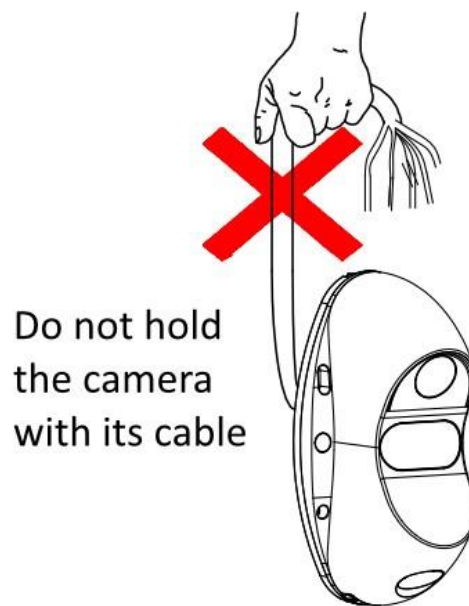

Figure 2-1 Typical Wrong Way of Carrying the Camera
- When handling the network camera, do not directly pull the cable at the camera tail, otherwise it may affect the normal use of the camera or cause wiring problems, as shown in Figure 2-1.